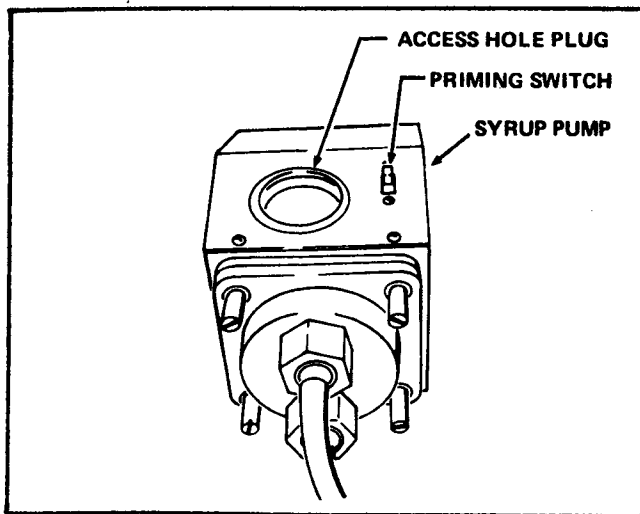

Figure 2-4. Syrup Pump and Priming Switch
- D. Move a Syrup Pump Priming Switch to the ON position. See Figure 2-4. Air present in the syrup line will be forced out the Syrup Dispensing Spigot.